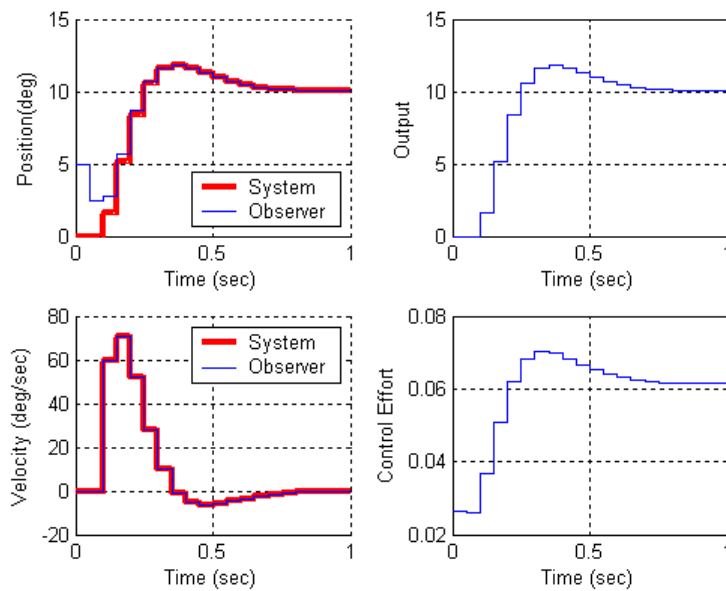

Figure 2. Results for part 1e.
e) Now assume the same condition as in part c, but place the observer poles at 0.45, 0.5, and 0.55 (you will need to use the **place** command to place the poles.) Assume both the position of the first disk (state 1) and the delayed control signal (state 3) are available to the observer. (Hint:  $C$  is a  $2 \times 3$  matrix) However, the output is still the position of the first disk. Simulate your system, you should get a result like that in Figure 2. Note that the observer has more information to work with here, so it does a better job of estimating the states. Turn in your plot.